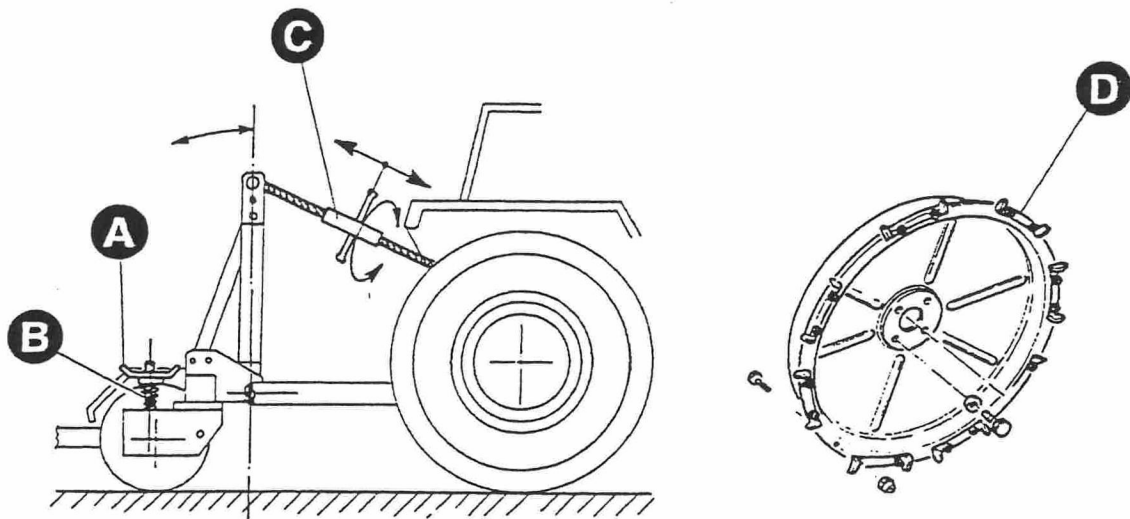

FIG. 21
During work, the drive wheels **must hold the ground constantly** to operate the transplanting equipment. The tractor's hydraulic lift unit must be completely lowered. For more effective ground-holding, the anti-skid shoes supplied (fig. 21.D) can be fitted.
- 24.1 - Lengthen the adjustable arm of the tractor's third point (fig. 21.C)
- 24.2 - Tighten the adjustment device (fig. 21.A) to give more pressure to the spring (fig. 21.B)